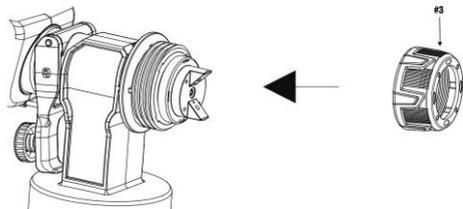

Fig. 3
3. Screw on the union nut (#3) (Fig. 3).